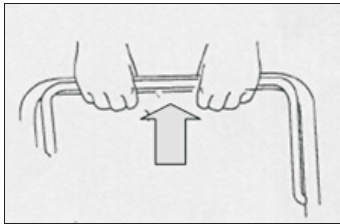

Fig. 2A
a) Standing behind the unit, grasp the brake control handle and hold it against the upper handle. (Fig 2A)